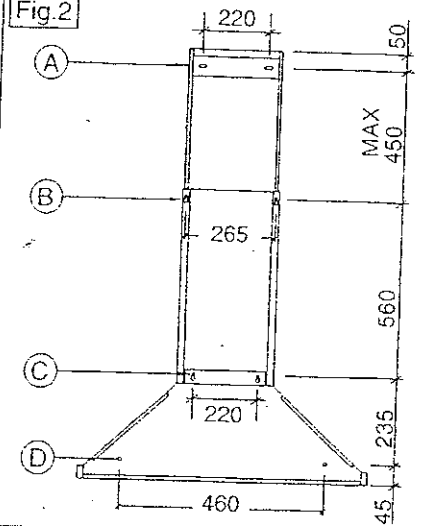

Fig.3
Block the clamp (Z) to the wall fig. 3.
Remove the connection (E) from the connection (F) and block it laterally to the clamp (Z) fig. 3 with appropriate screws.